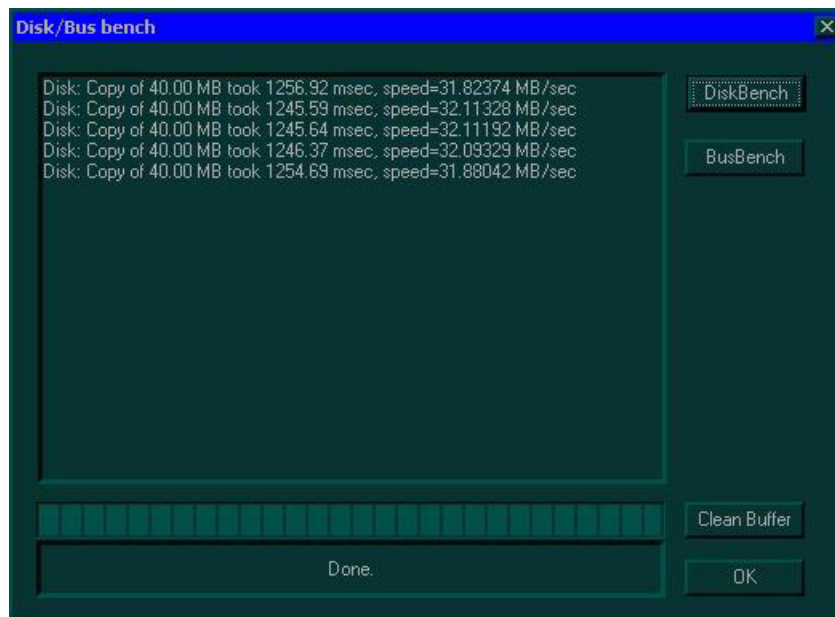

Figure 7-55 Disk/Bus Bench Window
- 3) Trackball to the **Check Disc/Bus** button and press **Select**. The **Disk/Bus Bench** window is displayed as shown in Figure 7-55 on page 7-81.